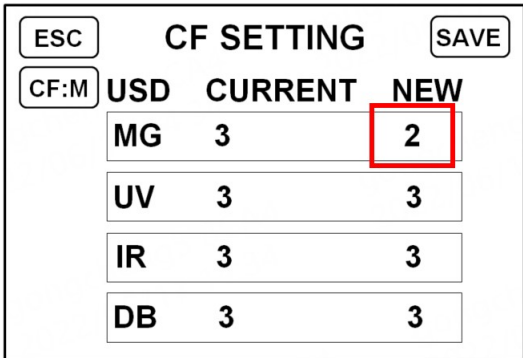
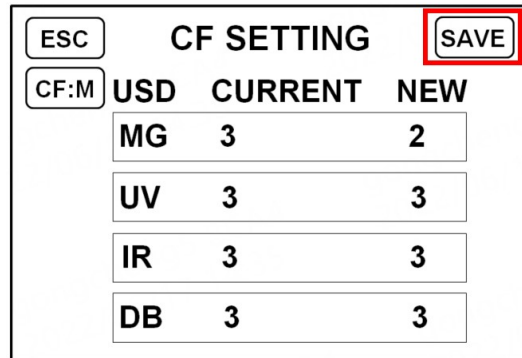

Figure 42
Figure 43
c) When "Level 2" is selected, the value of the NEW line corresponding to MG on the display interface will change to 2, as shown in Figure 42 below. Please click the "SAVE" key in the upper right corner to save the value, as shown in Figure 43.